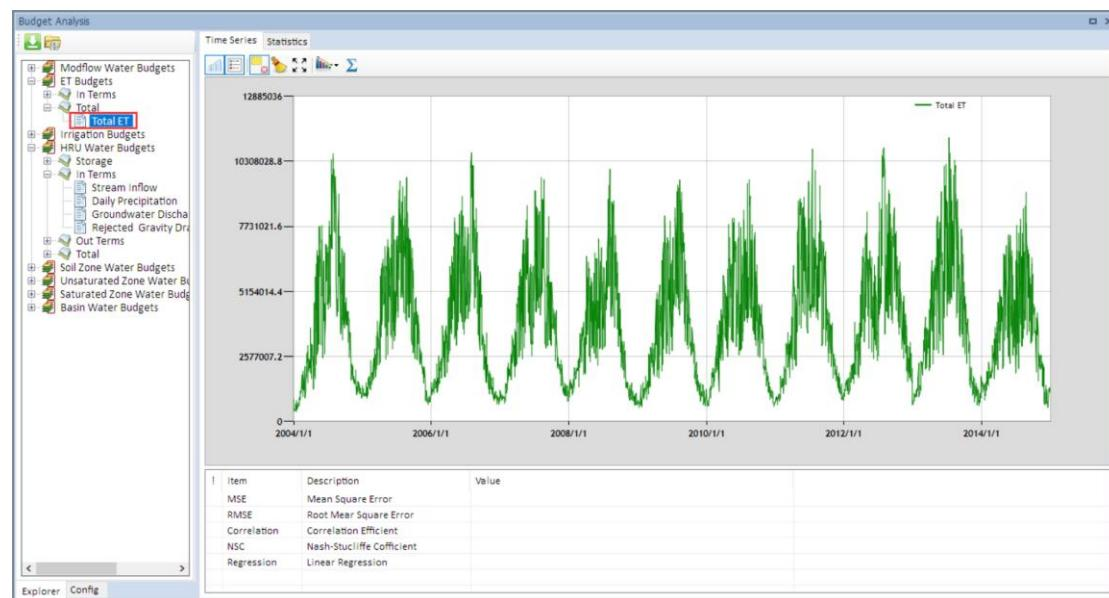

Figure 8-9. Temporal variation of total ET during the simulation period.
- 2) Double click any budget item to see its temporal variations. As shown in Figure 8-9, the figure shows temporal variation of total ET during the simulation period.